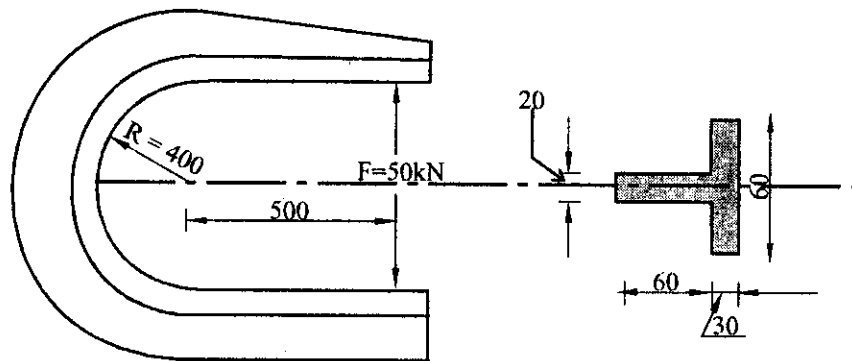

Fig. Q1 (b)
- b. The beam shown in figure Q1 (b) is subjected to a load of 50 kN. Determine the stresses at the inner and outer fibers. Plot the stress distribution. (16 Marks)